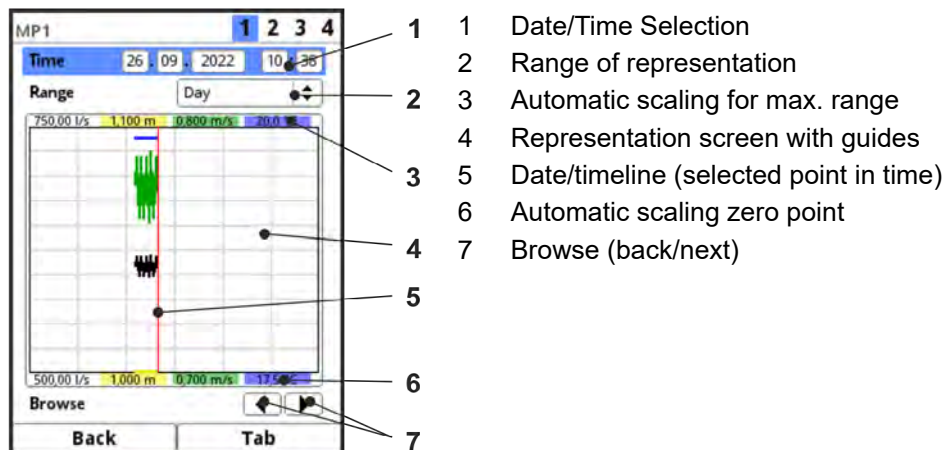

Fig. 41-2 Representation Trend Graph
1. Select the desired range (range of representation; Fig. 41-2 Pos. 2).
2. If necessary, use the arrows (Fig. 41-2 Pos. 7) to scroll forwards and backwards with the same basic display setting.
In the top area of the screen you can find the **Date/Time Selection** (Fig. 41-2 Pos. 1). The line is highlighted in blue and is therefore active.
The display shows the measurement data of the selected date depending on the set time period (Fig. 41-2 Pos. 2).
The red vertical line (Fig. 41-2 Pos. 5) is on the selected point in time (date and time).
➡ This setting is made using the >Range< (see Fig. 41-2 Pos. 2).